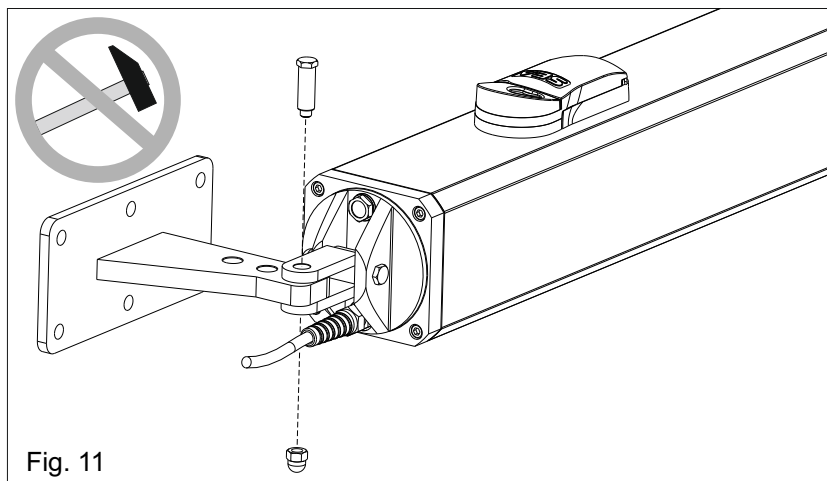

Fig. 11
- Attach the rear oscillating bracket as shown in Fig. 11